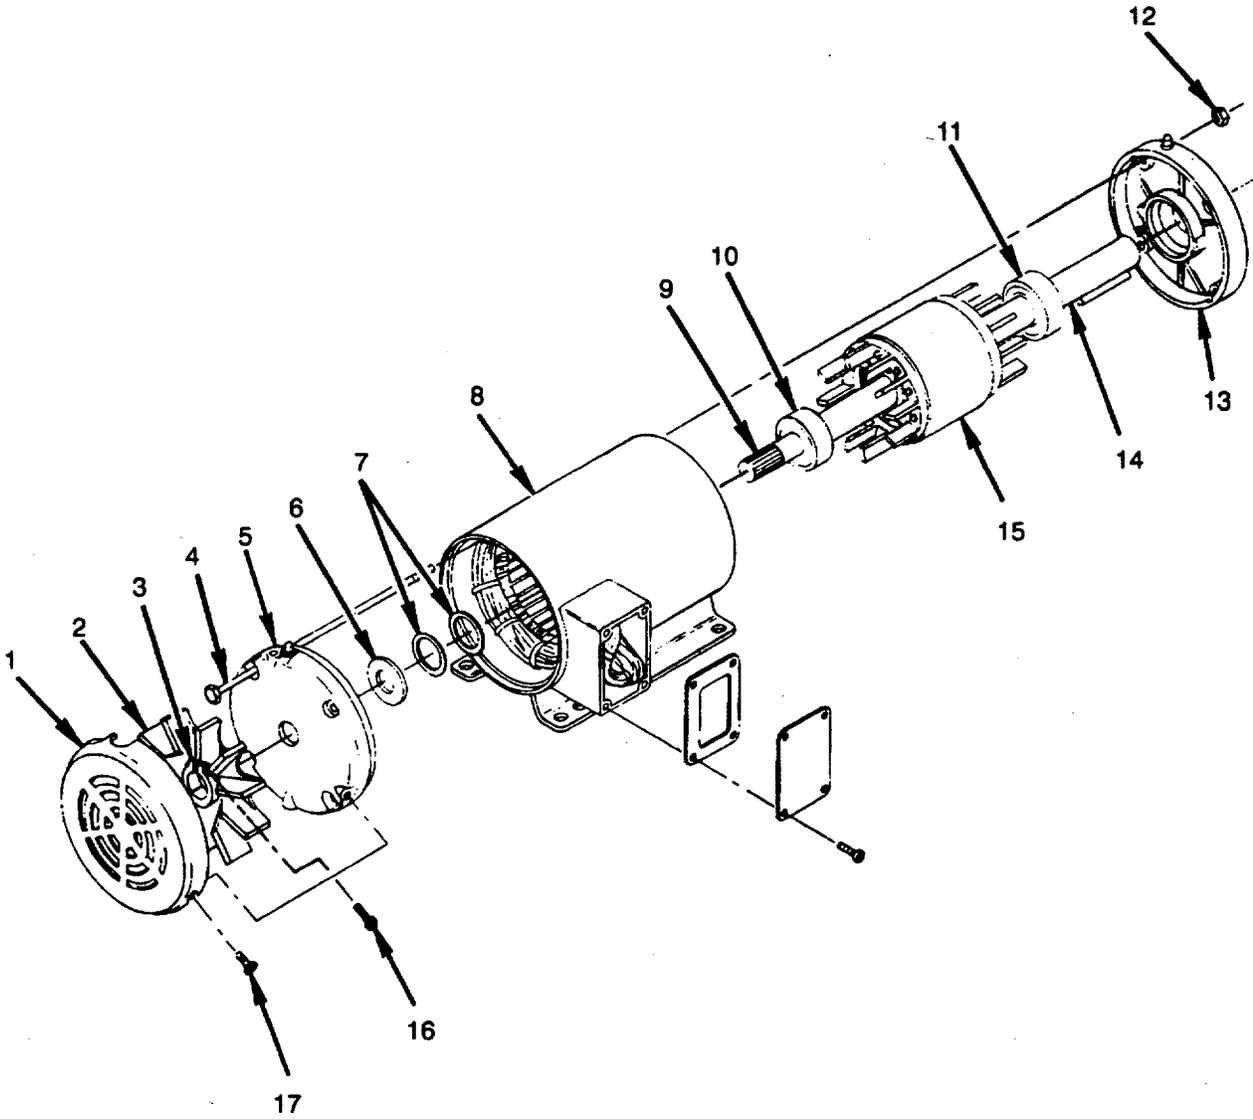

Figure 5-1. Evaporator Motor (B1)
1. Remove three screws (17) (see Figure 5-1).
2. Remove fan shield (1) from end cap (5).
3. Loosen fan clamp screw (16).